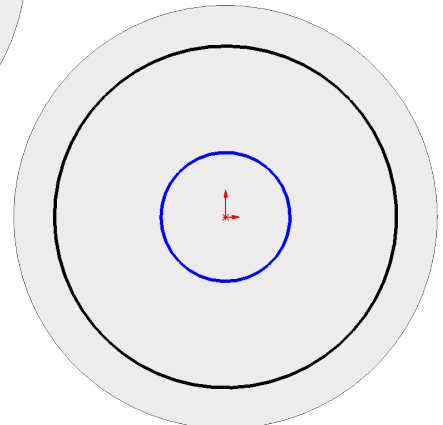

Fig. 13
Step 4. Click **Circle**  (S) on the Sketch toolbar.
Step 5. Sketch **circle at Origin** , **Fig. 13**.